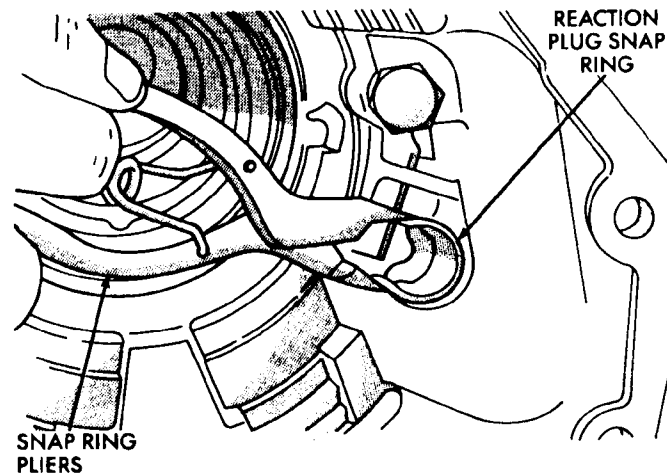

Fig. 70 Reaction Plug And Snap Ring Installation
- (14) Install reaction plug snap ring (Fig. 70). Compress snap ring only enough for installation; do not distort it.